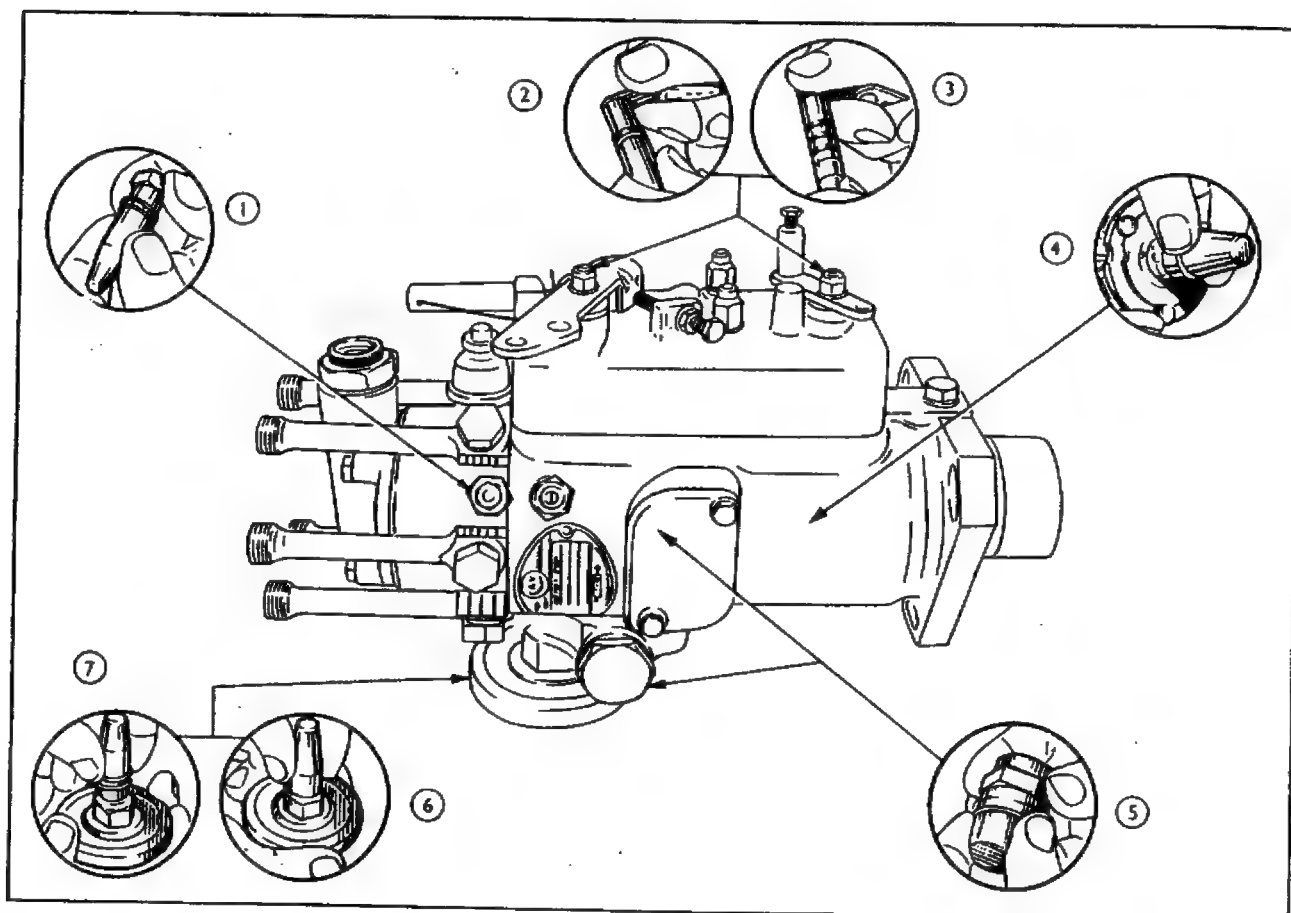

Fig. 82 1 Maximum Fuel Adjuster Assembly
15. Assemble the advance device. Insert the advance piston into the advance body so that the plain end is away from the circlip. Screw in the piston plug after first fitting a new "O" ring, using protection cap Tool No. CA.52., see Fig. 82.